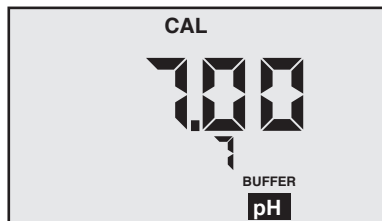

Figure 3
4. Press  to enter calibration mode. The “**CAL**”, “**BUFFER**” and “**7**” annunciators will appear (see Figure 3). Displayed value will be the uncalibrated sensor.